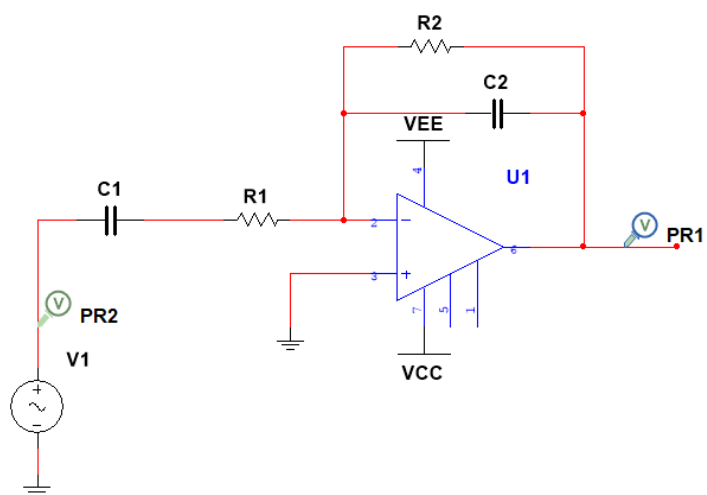

Fig 1.5: Op-amp Inverting AC amplifier
2. The circuit is setup as shown in figure 1.5. The supply voltage ($\pm V_{CC}$) is set at $\pm 15V$. The input to the circuit is $1V_{(p-p)}$ AC supply.